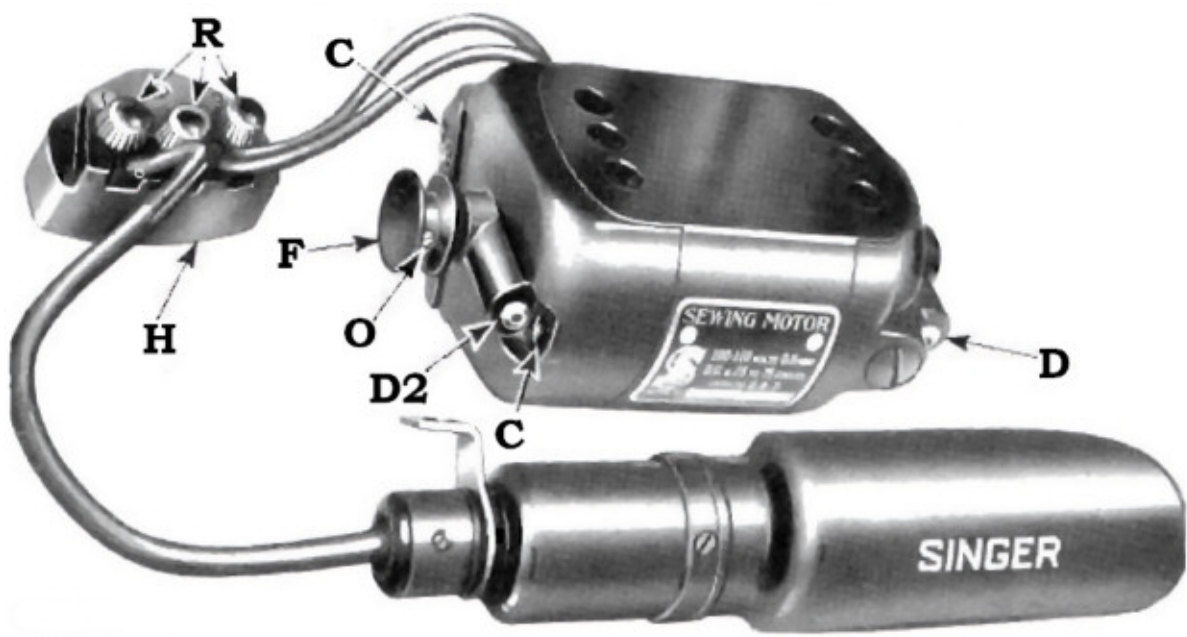
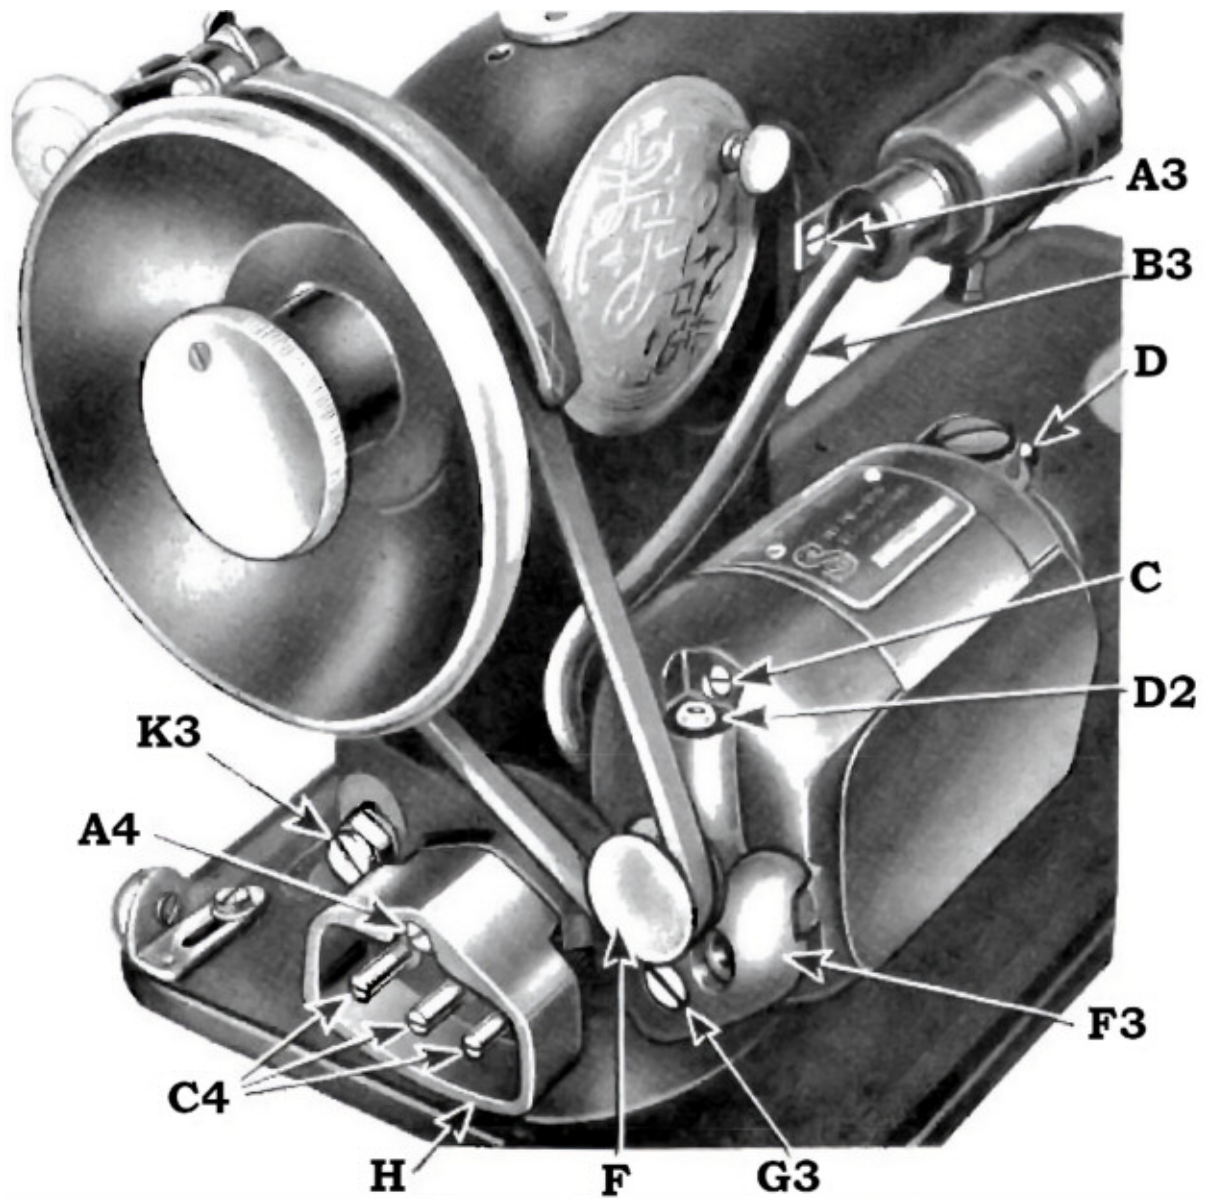
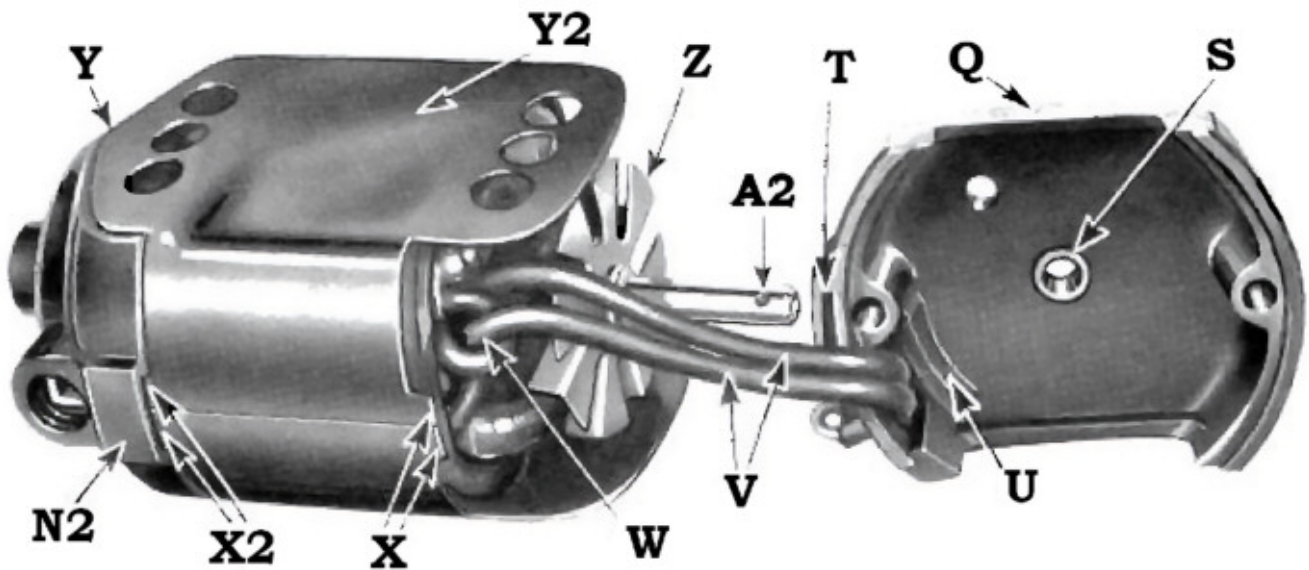
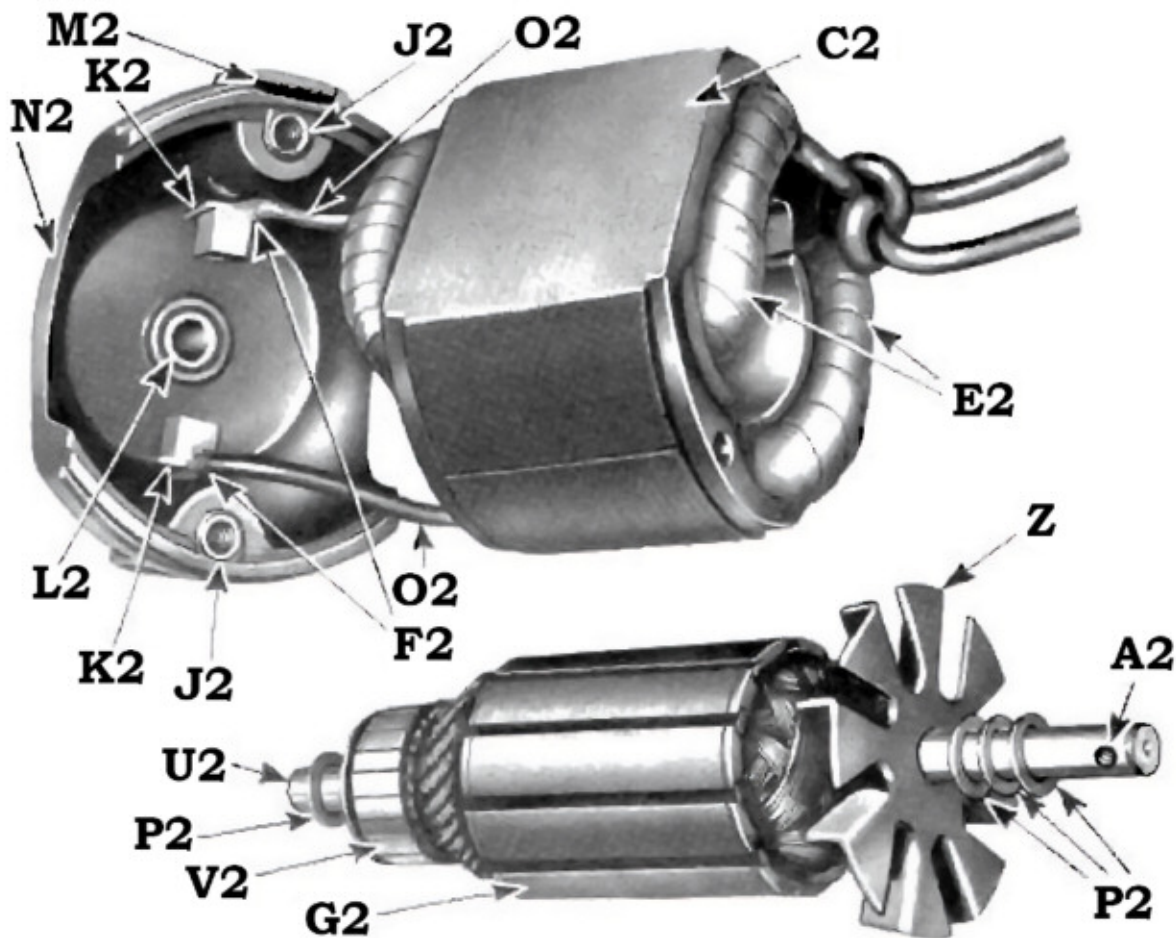

FIG. 20. MOTOR THREE-PIN TERMINAL AND SINGERLIGHT
FIG. 22. MOTOR SINGERLIGHT AND THREE-PIN TERMINAL
FIG. 23. MOTOR—PULLEY END COVER REMOVED.
FIG. 24. MOTOR—PULLEY END COVER, COMMUTATOR END COVER AND ARMATURE REMOVED (MACHINE 201-3)
The motor, three-pin terminal and Singerlight may be removed as a unit, as shown by Fig. 20, as a matter of convenience when inspecting electrical connections. Take out screw (A4, Fig. 22) and remove the
three-pin terminal from its seat on the motor bracket. Disconnect the controller leads from terminals Nos. 1 and 2, and turn aside the arm side cover to expose screw (A3, Fig 22) which fastens the Singerlight to the sewing machine. Remove screw (A3, Fig. 22) and Singerlight.
**Three-Pin Terminal—Machine 201-3.** Inspect the connections at the three thumb nuts (R, Fig. 20). See that these thumb nuts are screwed down firmly to insure tight connections. Each of the three pins is provided with a washer. See that this washer is, in each case, placed above the wire or wires before tightening the thumb nuts.
Inspect the soldered connections (F2, Fig. 24) at the brush tubes. See "Remove Commutator End Cover," page 33.
Take out screw (G3, Fig. 22) which fastens the motor to its bracket (F3, Fig. 22) and remove the motor.
**Remove Pulley.** Take out screw (O, Fig. 20) and remove the pulley (F, Fig. 20) from the armature shaft.
**Remove Pulley End Cover—Machine 201-3.** Remove the two through screws (C, Figs. 20 and 22) only the upper of the two screws
(C) is shown in Fig. 22, the lower one being concealed by the motor bracket. Carefully take the pulley end cover (Q, Fig. 23) off the field core (C2, Fig. 24), drawing it to the ends of the motor leads (V) as shown in Fig. 23. **Do not pry it off, as such an action would ruin this Bakelite cover.**
**Remove Brushes—Machine 201-3.** Take out the two screw caps (Z2, Fig. 25). When the screw caps are removed, the brush springs may protrude from the screw holes and the brushes can then be easily withdrawn. In case the brushes stick in the brush tubes, they can be conveniently removed after removal of the armature (G2, Fig. 24). See "Remove Armature" following. It is advisable to mark the brushes at (B1 and B2, Fig. 25) to insure their being replaced in the same relative position as before removal.
**Remove Armature—Machine 201-3.** The removal of the pulley end cover (Q) exposes the pulley end (A2) of the armature shaft, by means of which carefully withdrawn the armature from the motor.
If the wiring is not damaged, clean the commutator (V2, Fig. 24) with a dry, clean cloth before assembling the motor. If it is impossible to get the commutator bright by this means, use an ordinary rubber eraser. **Never use anything else on a small motor commutator.**
**Remove Field Core Shield—Machine 201-3.** With the pulley end cover removed, the field core shield (Y2, Fig. 23) is removed from the pulley end of the motor.
**Remove Commutator End Cover—Machine 201-3.** Be especially careful in taking off the commutator end cover (N2, Fig. 24). With the
**Inspect Wire Connections to Brush Tubes—Machine 201-3.** Examine both field lead connections (F2, Fig. 24) at brush tubes. If there are any loose strands of wire, they should be cut off. Make certain that the field leads (O2, Fig. 24) are firmly attached (clamped
and soldered) to the brush tuber terminals (K2, Fig. 24) and that the terminals (K2) are firmly soldered to the brush tubes as shown in Fig. 24.
**Replace Commutator End Cover.** Put the commutator end cover (N2, Fig. 24) in place on the field core (C2, Fig. 24). To make sure that the field leads (O2, Fig. 24) are safely positioned after the commutator end cover is in place on the field core, observe the field leads from the pulley end of the motor with pulley end cover (Q, Fig. 23 and armature (G2, Fig. 24) removed. If the wires are not properly placed (to avoid contact with the armature or commutator) they can be reached through the field coils (E2, Fig. 24) with pulley end cover and armature removed.
**Replace Field Core Shield—Machine 201-3.** Put the shield (Y2, Fig. 23) on the field core (C2, Fig. 24) with peaked end (Y) of the shield toward commutator end cover (N2) and with the two lugs (X2, Fig. 23) in the slot (M2, Fig. 24) in the commutator end cover (N2).
**Replace Armature—Machine 201-3.** When the armature shaft was withdrawn from its bearing (L2, Fig. 24) in the commutator end cover, the spring pressured grease wick projected into the shaft bearing (L2). To avoid damage to the grease wick and binding of the armature shaft, the grease wick must be pushed back into the grease wick tube before the armature shaft is reinserted into its bearing in the commutator end cover. Use a small screw driver to push the grease wick back into the grease tube (D, Figs. 20 and 22) while inserting the end (U2) of the armature shaft into the bearing (L2) in the commutator end cover.
**Replace Pulley End Cover—Machine 201-3.** Push the grease wick up into the grease tube (D2, Figs. 20 and 22) in the pulley end cover (Q, Fig. 23), using the method suggested under “Replace Armature” at the bottom of the preceding page. Be sure that the washers (P2, Fig. 24) are on the armature shaft. Put the pulley end cover (Q, Fig. 23) on the field core (C2, Fig. 24) and see that the lugs (X, Fig. 23) of the shield (Y2) enter the slot (T) for the same pulley end cover. Pull on the motor leads (V, Fig. 23) to make certain that the knob (W) is held by the projection (U) on the inside of the pulley end cover, otherwise the motor leads will be in the way of the fan (Z) on the pulley end of the armature shaft. Insert and tighten the two through screws (C, Figs. 20 and 22) alternately and a little at a time, and make sure that the end covers (Q) and (N2) are solidly and accurately seated on the field core (C2) to insure perfect alignment of the armature shaft bearings (S) and (L2). Otherwise the armature will not rotate freely. Turn the shaft with the fingers to ascertain that it revolves freely.
**Replace Pulley—Machine 201-3.** Put the pulley (F, Figs. 20 and 22) on the armature shaft, with the screw hole in the pulley aligned with the screw hole (A2, Figs. 23 and 24) in the shaft. Insert screw (O, Fig. 20) and turn it all the way in.
Attach the motor to the motor bracket (F3, Fig. 22) so that the lower screw hole in the pulley end cover is at the lower hole (G3, Fig. 22) in the motor bracket, and insert and tighten the screw (G3, Fig. 22). Pass the motor leads (V, Fig. 23) beneath the motor bracket (F3, Fig. 22) and attach the motor lead without identification tubing to pin No. 2, and the lead with the red identification tubing to pin No. 3 of the three-pin terminal.
Fasten the Singerlight bracket, with Singerlight, to the machine arm by means of screw (A3, Fig. 22), and pass the Singerlight leads (B3, Fig. 22) down between the pulley end of the motor and the balance wheel end of the machine, and beneath the motor bracket (F3, Fig. 22). Fasten the lead with the yellow identification tubing to pin No. 1, and the lead with the red identification tubing to pin No. 3 of the three-pin terminal. Each of the three pins of the three-pin terminal (H, Fig. 22) is provided with a washer. Make sure that these washers are placed above the wire or wires, then firmly tighten the thumb nuts (R, Fig. 20).
Attach the three-pin terminal (H, Fig. 22) to its seat on the motor bracket (F3, Fig. 22) by means of the screw (A4, Fig. 22).
**Adjust Belt Tension—Machine 201-3.** Loosen the screw (K3, Fig. 22), which fastens the motor bracket (F3, Fig. 22) to the sewing machine, sufficiently to permit the placing of the belt in its groove on the balance wheel of the machine and on the motor pulley. With the belt in place on the balance wheel and motor pulley, move the motor bracket (F3, Fig. 22), with motor attached, up or down on its seat until correct belt tension is obtained, then firmly tighten screw (K3, Fig. 22). Tension should be just sufficient to drive the sewing machine without belt slippage.
**To Lubricate the Motor—Machine 201-3.** Insert the tip of the motor lubricant tube in the hole in the grease tubes (D and D2, Figs. 20 and 22) and squeeze in a quantity of lubricant sufficient to fill the grease tubes.